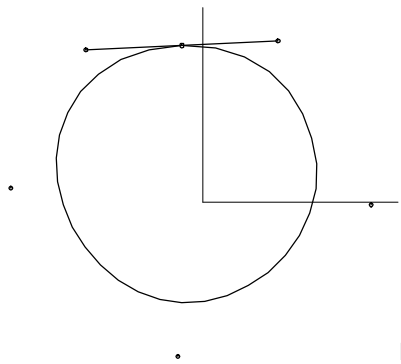

Fig. 4
- 4 Click **OK** (Fig. 4). This should match our distribution model LOOP2.ms2 in Home View.